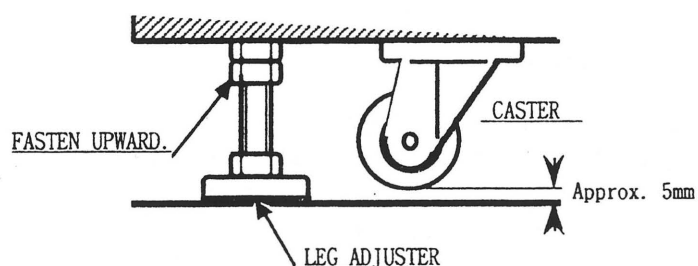

FIG. 6.7 LEG ADJUSTER
- 3) After making adjustments, fasten the leg adjuster nut upward and secure the height of the leg adjuster (Fig. 6.7).